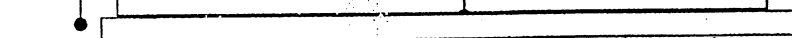

Figure 1
- 1.b) Design a reinforced concrete isolated footing for an R. C. column 100 cm in diameter. The proposed configuration of the footing is shown in Figure 1. The column is carrying net working load of 850 ton. The net bearing capacity of supporting soil is 12 t/m².